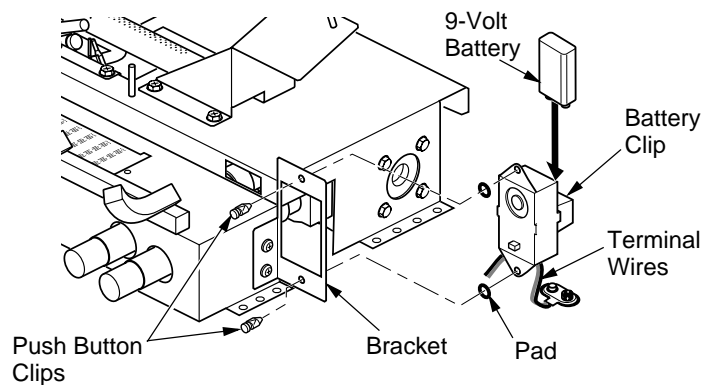

Figure 20 - Installing Remote Receiver
- Install remote receiver into receiver bracket using pads and push button clips provided with receiver (see Figure 20).
- Locate the battery clip mounted on the back of the receiver (see Figure 20).